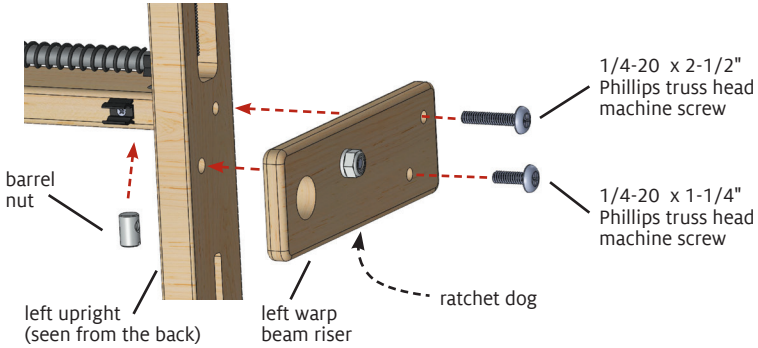

FIGURE 8: ATTACH LEFT WARP BEAM RISER
8. Attach the left warp beam riser: Orient the left warp beam riser with the ratchet dog on the inner side of the loom and holes aligned with holes in the left upright (Figure 8). Insert a 1/4-20 x 1-1/4" Phillips truss head machine screw into the lower hole of the riser and into the left upright. Tighten the screw into the upright. Hold the barrel nut from Step 7 in the left end of the top beam as you insert a 1/4-20 x 2-1/2" Phillips truss head machine screw